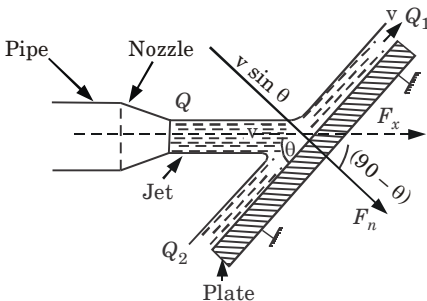

Fig. 4.1.2. Jet striking stationary inclined plate.
1. If plate is smooth and there is no loss of energy, then jet will move over the plate with a velocity (v) as shown in Fig. 4.1.2.